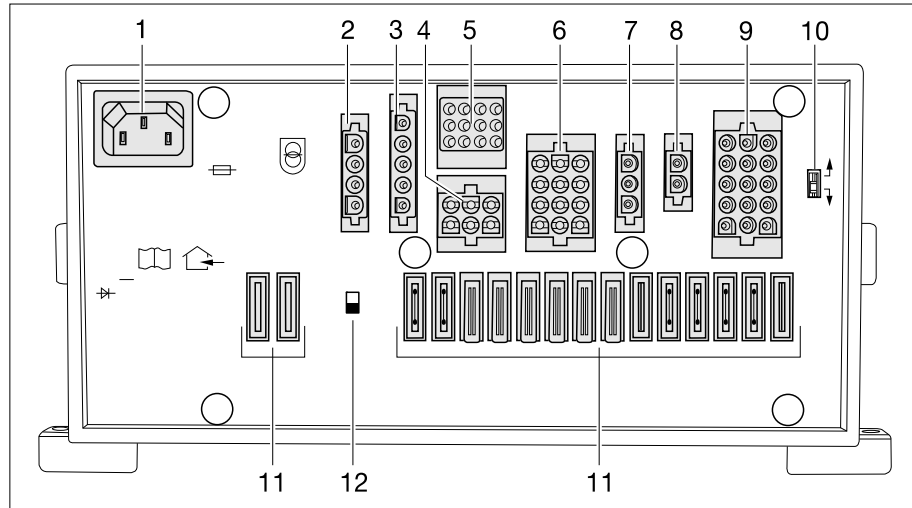

Fig. 255 Transformer/rectifier (EBL 119)
- ▷ The battery cut-off switch (Fig. 255,12) disconnects all the appliances that are connected to the transformer/rectifier from the 12 V network.
- ▶ If the battery selector switch (Fig. 255,10) is set incorrectly, oxyhydrogen gas (exploding gas) can form. Danger of explosion!
The battery selector switch (Fig. 255,10) is used to set the charger module in the transformer/rectifier to the type of living area battery installed in the vehicle ("lead acid", "dryfill" or AGM).